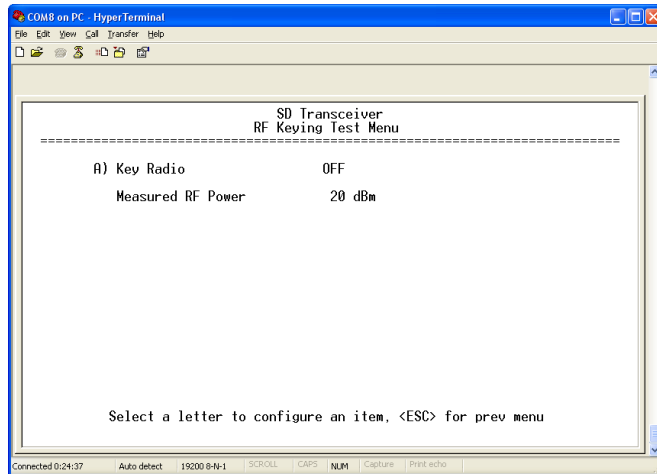

Figure 49. RF Keying Test Menu
1. Select **RF Keying Test** from the Radio Test Menu. This results in the submenu shown in Figure 49.